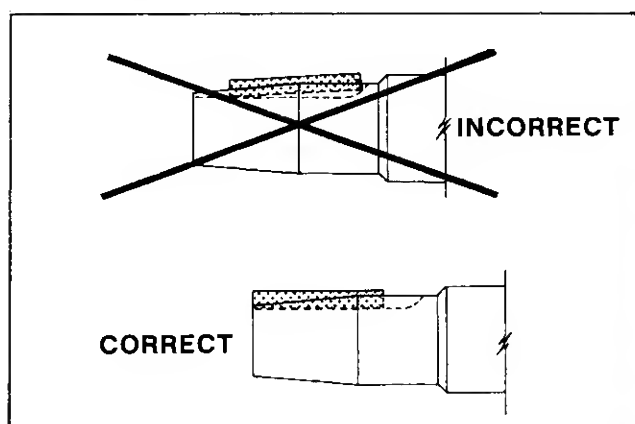

Figure 8-31. Correct And Incorrect Way To Install Flywheel Key
DO NOT allow the key to be pushed inward on the keyway while installing the flywheel. If the key rides up on the rounded surface at the end of the keyway as shown in Figure 8-31, it will act as a wedge and crack the flywheel hub.
2. Position key properly in keyway as shown in Figure 8-31 and carefully guide key slot in flywheel hub over the key, to avoid pushing the key inward.